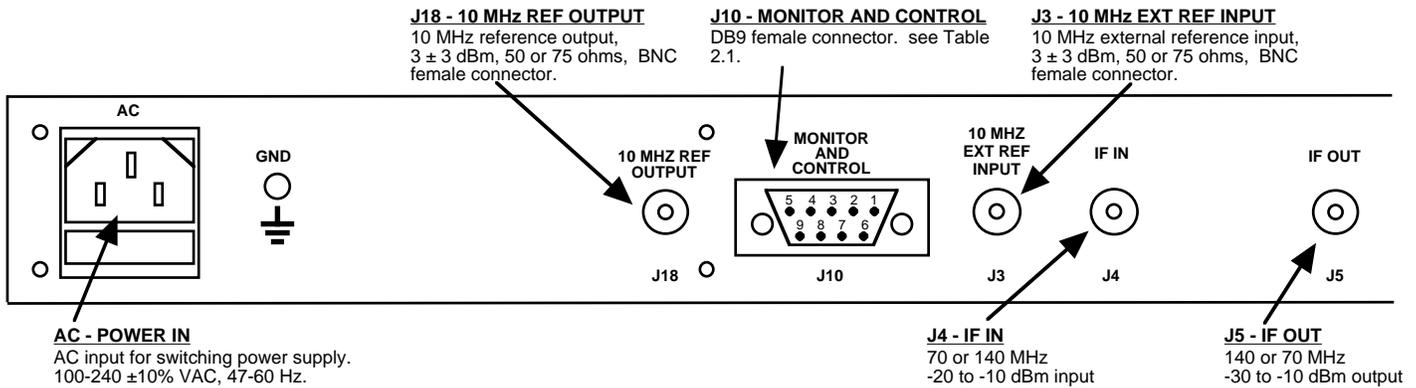

FIGURE 2.1 2083-914A Rear Panel I/O's
2.2 Rear Panel Input/Output Signals - Figure 2.1 shows the input and output connectors on the rear panel.
1. Connect a -10 dBm to -20 dBm signal to IF IN, J4 (Figure 2.1).